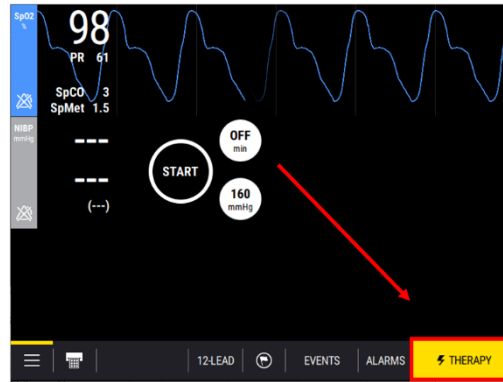

Figure 4
3. Access the Therapy Screen by pressing **THERAPY** in the lower-right corner of the touchscreen as shown in the following Figure 4.